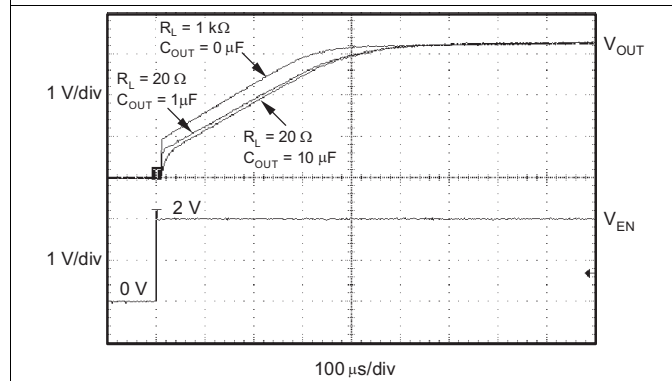

Figure 21. TPS73233 Turnon Response
The enable pin (EN) is active high and is compatible with standard TTL-CMOS levels. A  $V_{EN}$  below 0.5 V (maximum) turns the regulator off and drops the GND pin current to approximately 10 nA. When EN is used to shut down the regulator, all charge is removed from the pass transistor gate, and the output ramps back up to a regulated  $V_{OUT}$  (see Figure 21).